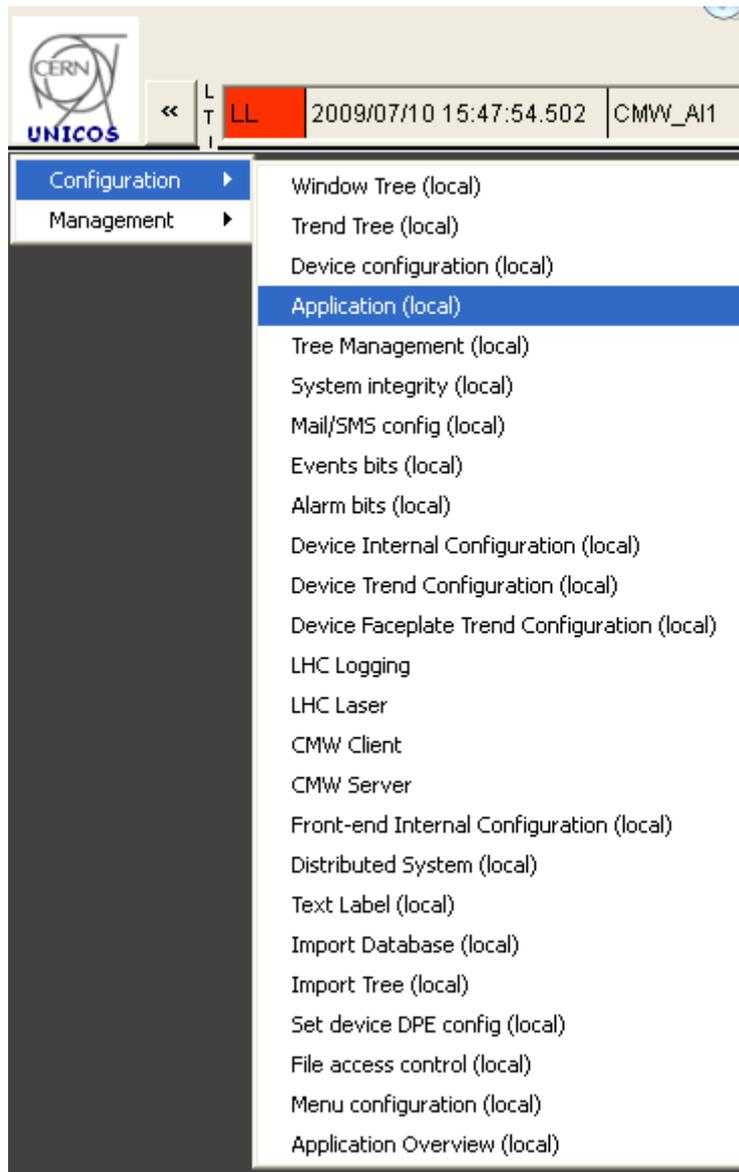

Figure 5: open the application configuration.
- open the application configuration (Figure 5 and Figure 6) and set the navigation panel to 'vision/unCMWDeviceTestAddress.pnl' (located in the installed_components/panels folder)